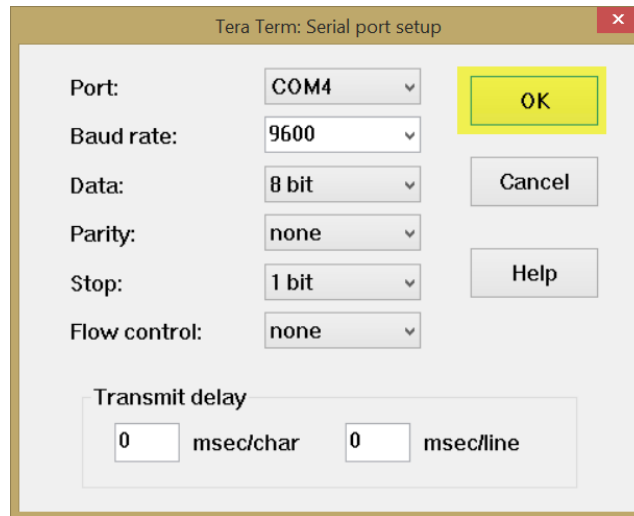

FIGURE E-6. Configuring the Serial Port
6. Select **Serial port** from the drop-down list in **Setup**. Change the port to reflect what you will be using to work with the SR50AT/T. Leave the other settings at their default values. Click the **OK** button when finished (FIGURE E-6).